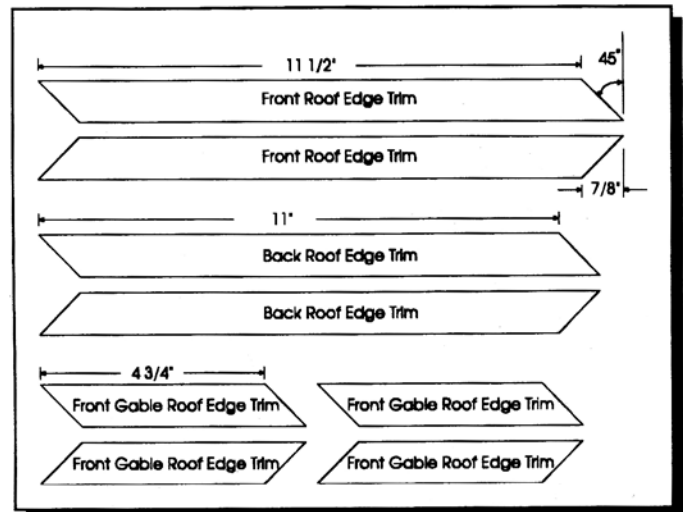

Figure 26- Roof Edge Trim
a. Using four 13 1/2" and four 6" pieces, cut the following parts. See Figure 26.